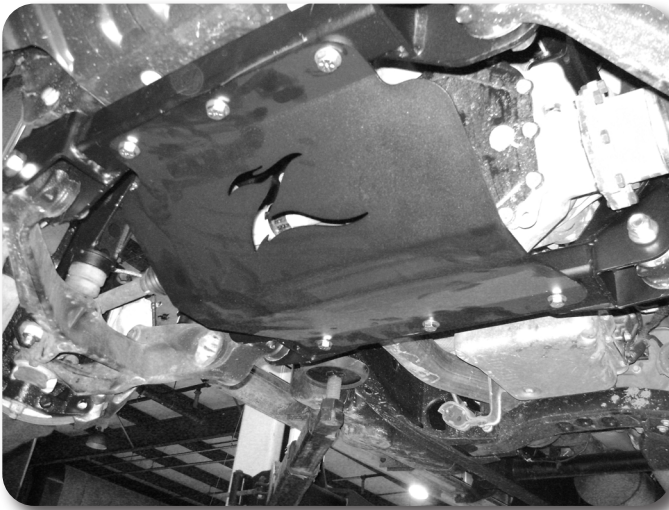

Figure 35
49. Locate the new differential skid plate. Position the skid plate so that it aligns to the thread holes on the bottom of the front and rear cross members **Figure 35**. Fasten the skid plate with 1/2" x 1-1/4" bolts and 1/2" SAE washers. Use Loctite on the bolt threads and torque bolts to 60 ft-lbs.